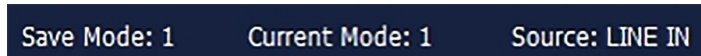

Fig.7
- **Save Mode** - Indicates which EQ preset is saved in the DSP (Fig.7).
- **Current Mode** - Indicates which EQ setting is active (Fig.7).
- **Source** - Indicates if Aux Line or Bluetooth is in use (Fig.7).